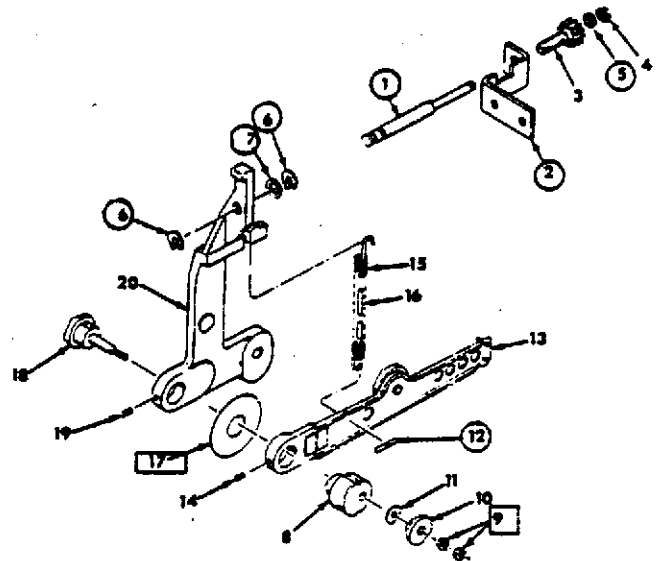
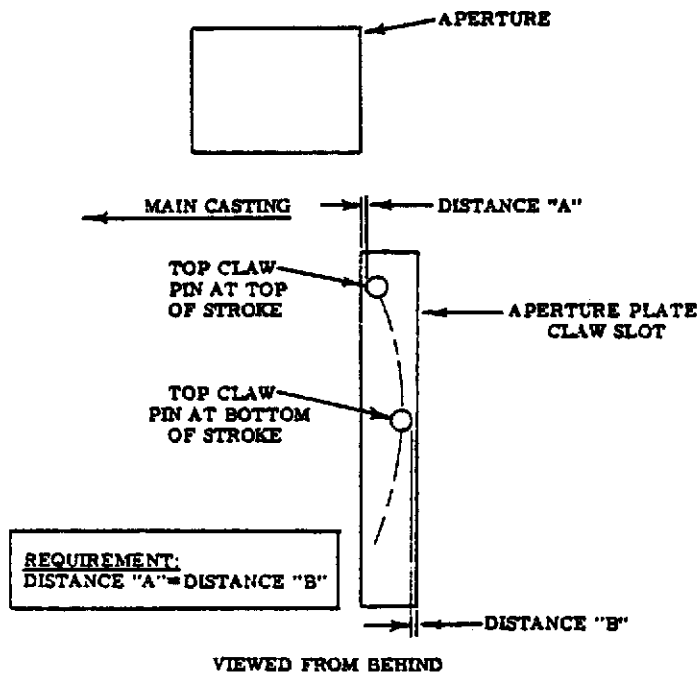
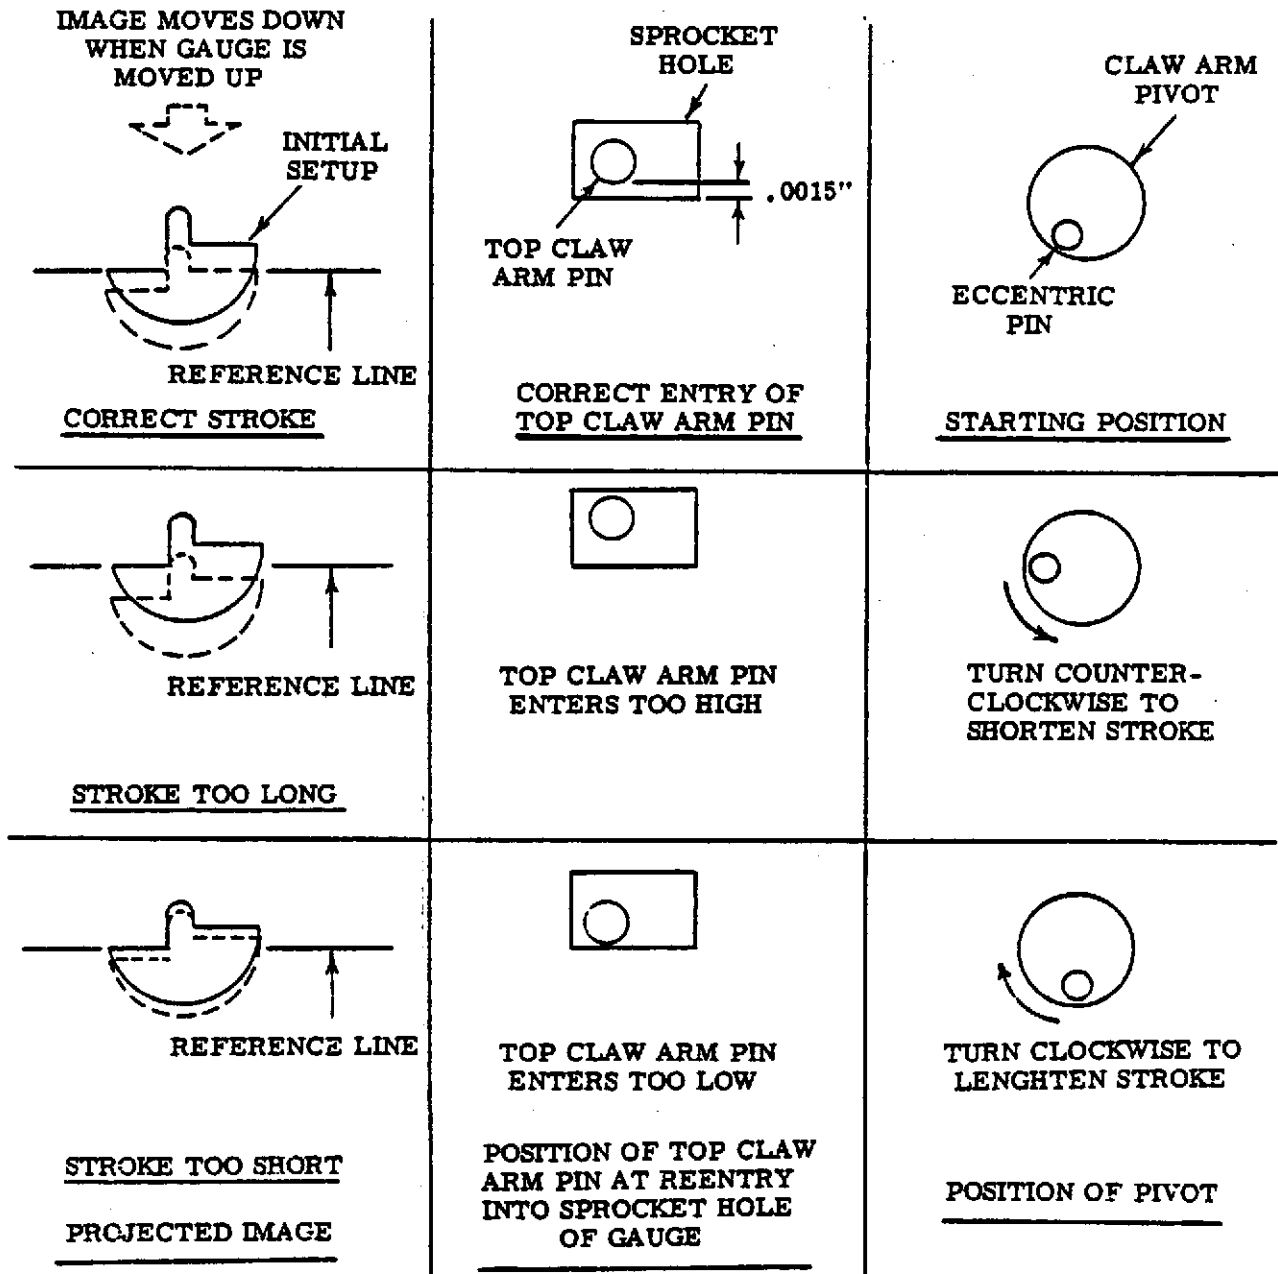

Figure 3-71. CLAW ARM ADJUSTMENTS
Figure 3-72. SIDE CLEARANCE
Figure 3-75. CLAW PULL DOWN STROKE ADJUSTMENTS
A good starting position for the Pivot (18) (Figure 3-71) places its eccentric pin at about 7 o'clock when viewed from the front of the projector. (See Figure 3-75) The notch in Bushing (8) should be slightly below the notch in Pivot (18) so an imaginary line drawn across the top of the Bushing notch aligns with the bottom of the Pivot notch.
Before attempting any adjustments, manually rotate the inching knob to make sure the Claw Arm pins do not strike the sides of the Aperture Plate Claw Slot. At the top of the Claw Arm Stroke, the Top Claw Arm Pin will be nearer the inside edge of the Aperture Plate Slot (Figure 3-72). At the bottom of its travel, this Pin will be nearer the outside edge of the Aperture Plate Slot. Loosen Screw (14) and adjust Bushing (8) (Figure 3-71) so these two distances are equal. (Removing the Lamphouse Cover and viewing the Pins from behind the Aperture Plate aids in this adjustment.)
- a. Thread an old film in the projector (do not use a good film for this adjustment) and adjust the Framing Knob to eliminate any frame lines at the top or bottom of the projected image with the projector running in FORWARD. If excessive noise results when the Framing Knob is moved, stop the projector and check the location of the Claw Arm Pins in the sprocket holes of the film. When Framing is correct, the Top Claw Arm Pin should be the same distance from the inside edge of the sprocket hole at the top of its stroke as it is from the outside edge of the sprocket hole at the bottom of its stroke. (Figure 3-72). Loosen Screw (14) and adjust the Bushing (8) (Figure 3-71) so these two distances are equal. Remove the film from the projector after proper Framing and Side Clearance are established.
- h. Adjust stroke by placing the Shuttle Cam Adjusting Tool (ST- 5884) on the Claw Arm Pivot (18) (Figure 3-71), loosening Screws (14) and (19) and rotating the Pivot (18) and Bushing (8) the same amount in the same direction simultaneously. Turn counterclockwise (as viewed from the front of the projector) to shorten the stroke, and clockwise to lengthen the stroke (Figure 3-75).
sprocket hole at the top of its stroke as it is from the outside edge of the gauge sprocket hole at the bottom of its stroke. (Figure 3-72)
Loosen Screw (14) and adjust the Bushing (8) (Figure 3-71) so these two distances are equal.
A good starting position for the Pivot (18) (Figure 3-76) places its eccentric pin at about 7 o'clock when viewed from the front of the projector. (See Figure 3-75) The notch in Bushing (8) should be slightly below the notch in Pivot (18) so an imaginary line drawn across the top of the Bushing notch aligns with the bottom of the Pivot notch.